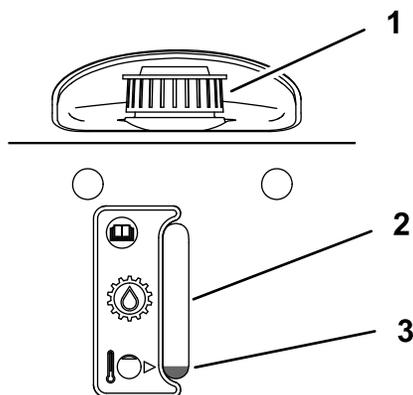

Figure 44
4. Use the sight window to check the fluid level in the expansion tank (Figure 44).
- 13. Add hydraulic fluid to the expansion tank until it reaches the fluid line (Figure 44).